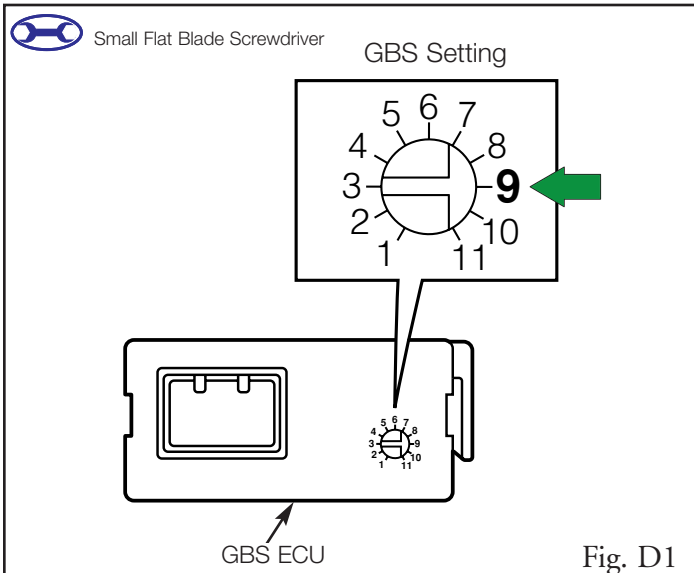

Fig. D1
1. Turn the GBS adjustment screw on the GBS ECU to the "9" position. (Fig. D1)